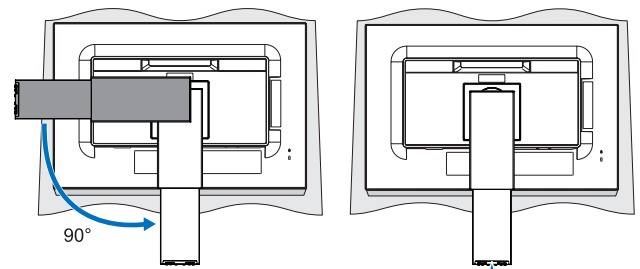

Figure 1
1. Place monitor face down on a non-abrasive surface (**Figure 1**).
2. Please rotate the stand 90 degrees as shown in **Figure 1**.